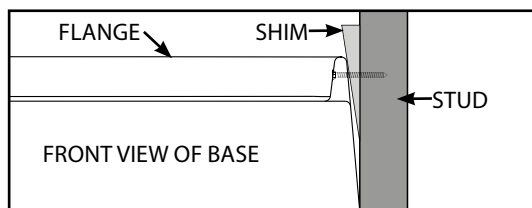

FIGURE 5. There will be a small gap between flange and stud.
- e. Shim between nail flange and stud(s) to create a tight fit (Fig 5).
- f. Once leveled and shimmed, screw nail flange to all studs (Fig 5).